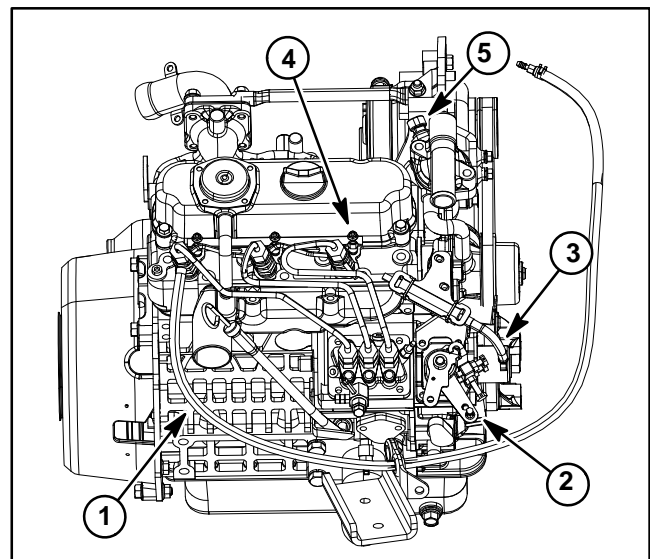

Figure 12
- B. Fuel stop solenoid (Fig. 12).
- C. Glow plug bus (Fig. 12).
- D. Temperature sender (Fig. 12).